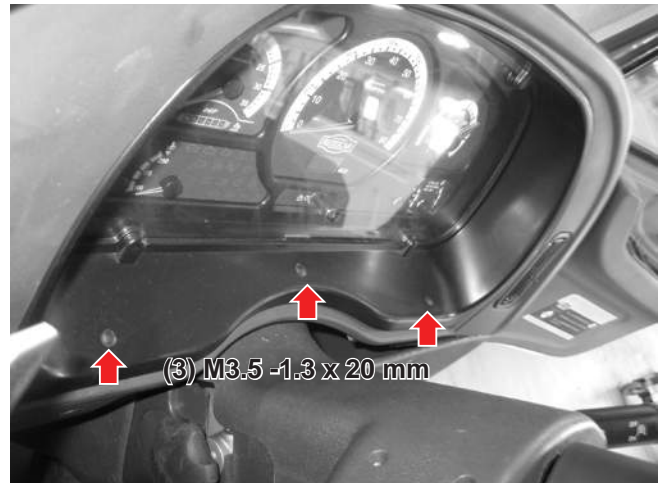

Figure 4-1
1. Remove the three screw plugs and set aside for reinstallation (see Figure 4-1).
2. Remove the three screws and set aside for reinstallation (see Figure 4-1).
3. With all screws completely removed, pull the lower portion of the cluster outwards (see Figure 4-1).
4. Pull the cluster downward to unhook the upper tabs (see Figure 4-1).